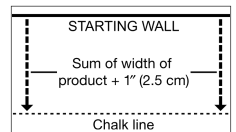

Figure 8
- In at least two places at least 18" (46 cm) from the corner, measure out equal distance from the starting wall (Figure 8) the face width of the starter board plus 1" (2.5 cm) (do not include the width of the tongue in this measurement). Mark these points and snap a chalk line through them. This measurement allows for the required 3/4" (19 mm) expansion and the width of the tongue.
- Use a pneumatic finish nailer to face-nail the groove side 1/2" (13 mm) from the edge at 6" (15 cm) intervals and 1"-3" (2.5-7.6 cm) from each end. Then, blind nail using a finishing gun held at a 45° angle. Nail down through the nailing "pocket" on top of the tongue every 6"-8" (15-20 cm) (Figure 8).